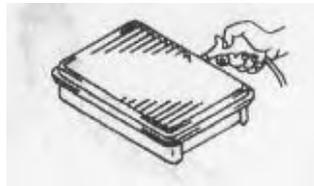

FIG.8-2
(2) Blow off dust with compressed air from inside of the element. (FIG.8-2)